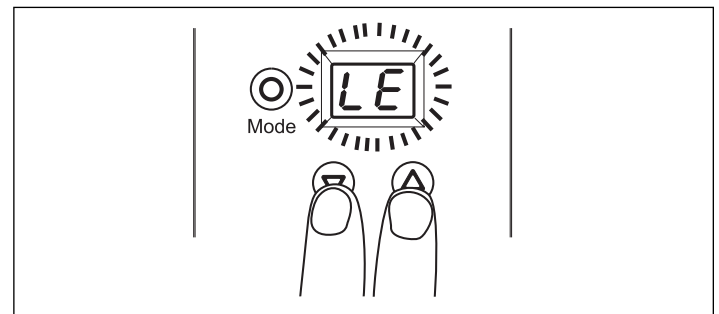

Figure 3
In order to unlock the menu, simultaneously press the (▲) and (▼) buttons for about 3 seconds. There will be a short beep and the display starts flashing to signal that the menu is unlocked. (See Figure 3)
1. Unlock the menu per previous instructions in section 4.1 (Figure 3); either LE or UL will be flashing on the display screen.